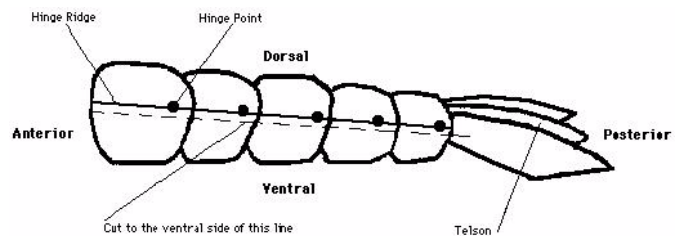

Figure NB-7-5: Diagram to show the dissection of the crayfish tail.
- 6 Discard the ventral portion of the shell (Figure NB-7-5 on page NB-7-5).